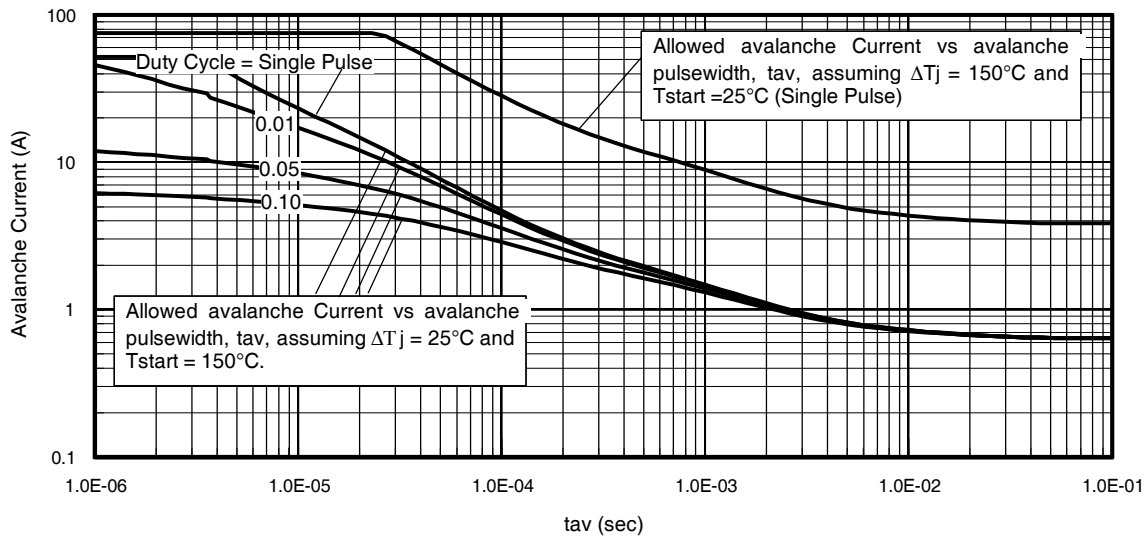

Fig 14. Typical Avalanche Current vs.Pulsewidth
Notes on Repetitive Avalanche Curves , Figures 14, 15:
7.  $\Delta T$  = Allowable rise in junction temperature, not to exceed  $T_{jmax}$  (assumed as  $25^\circ\text{C}$  in Figure 14).